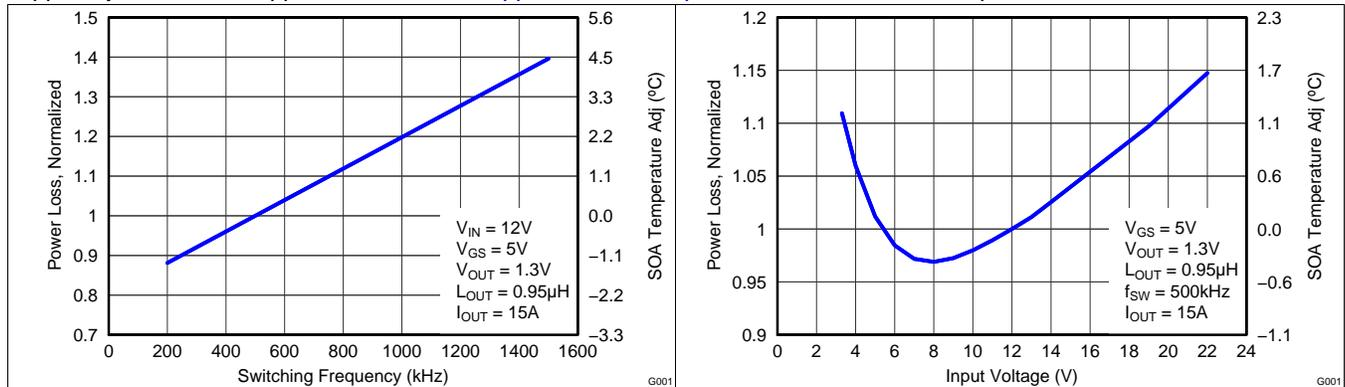

Figure 5. Normalized Power Loss vs Switching Frequency
- Normalized Power Loss for switching frequency  $\approx$  1.11 (Figure 5)
- SOA adjustment for switching frequency  $\approx$  1.03°C (Figure 5)